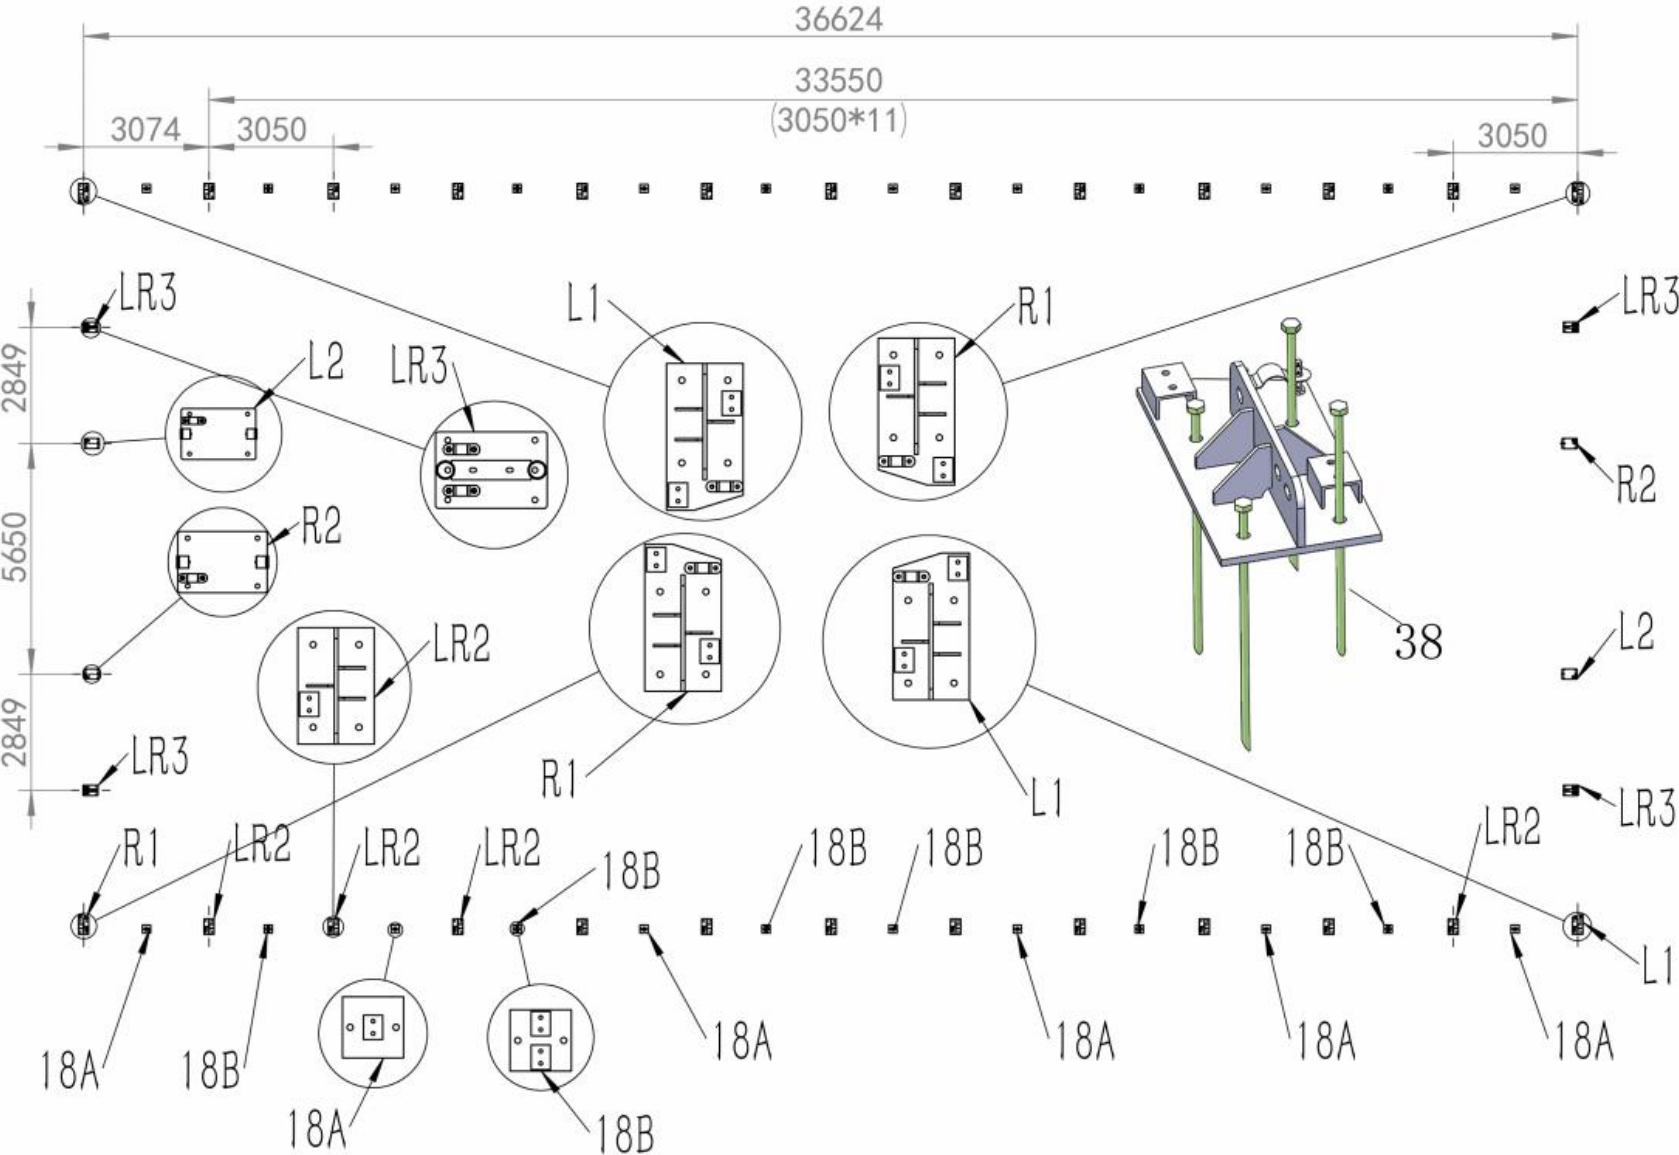

Figure 1
2. Please refer to the diagram (Figure 1) to place the base plates.
3. As Figure 1 shows each Base plate is equipped with 4 pieces of Stake pegs.(No.38) or Expand screw